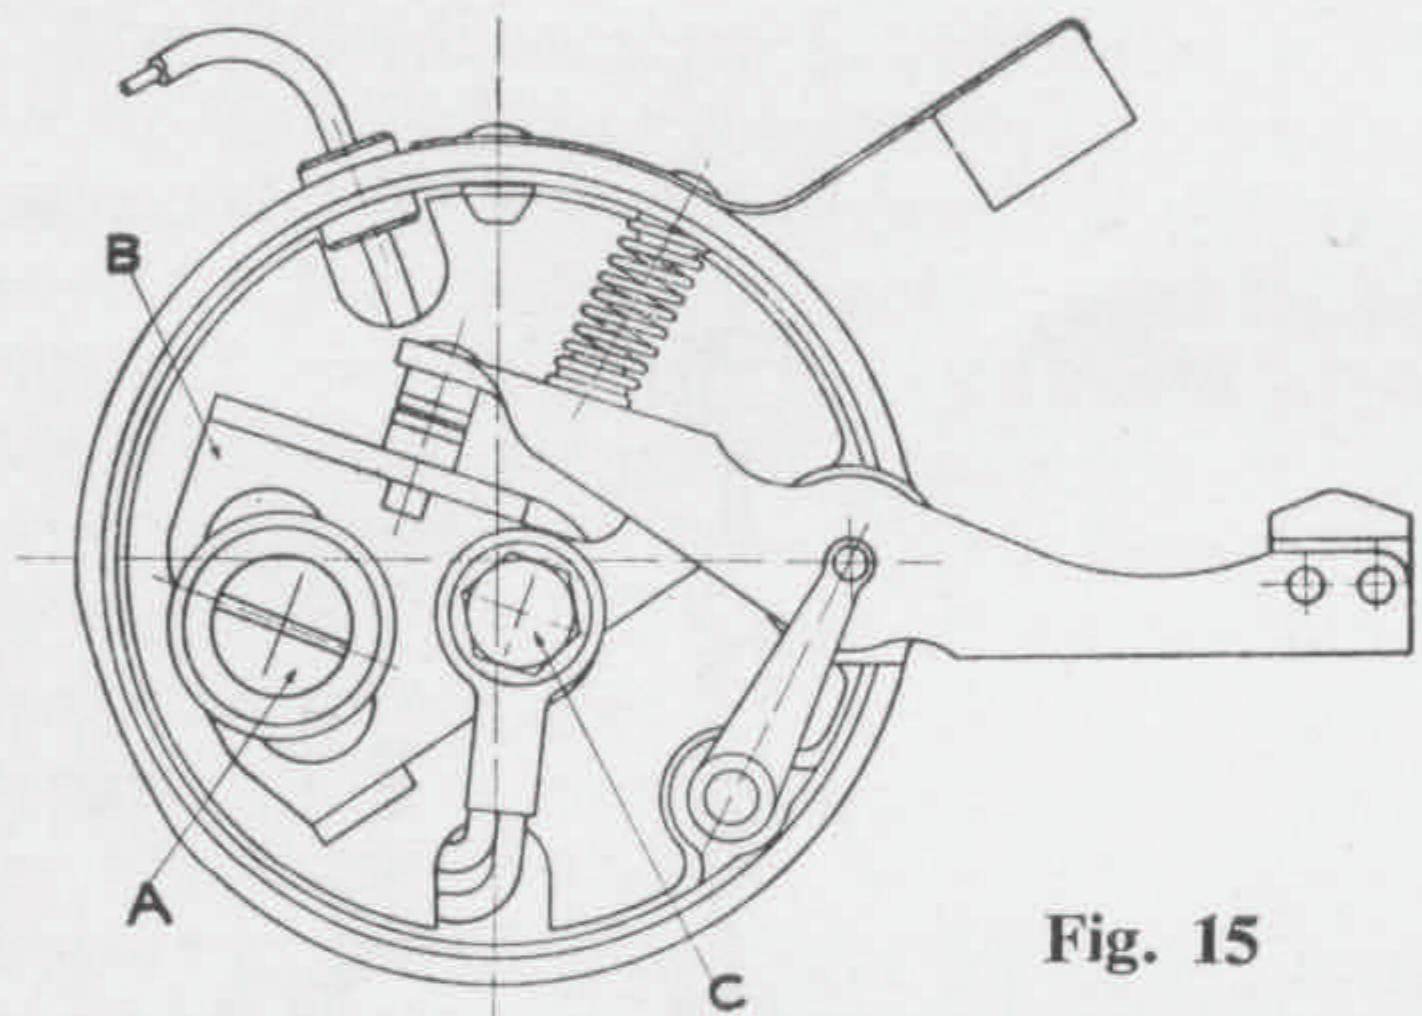
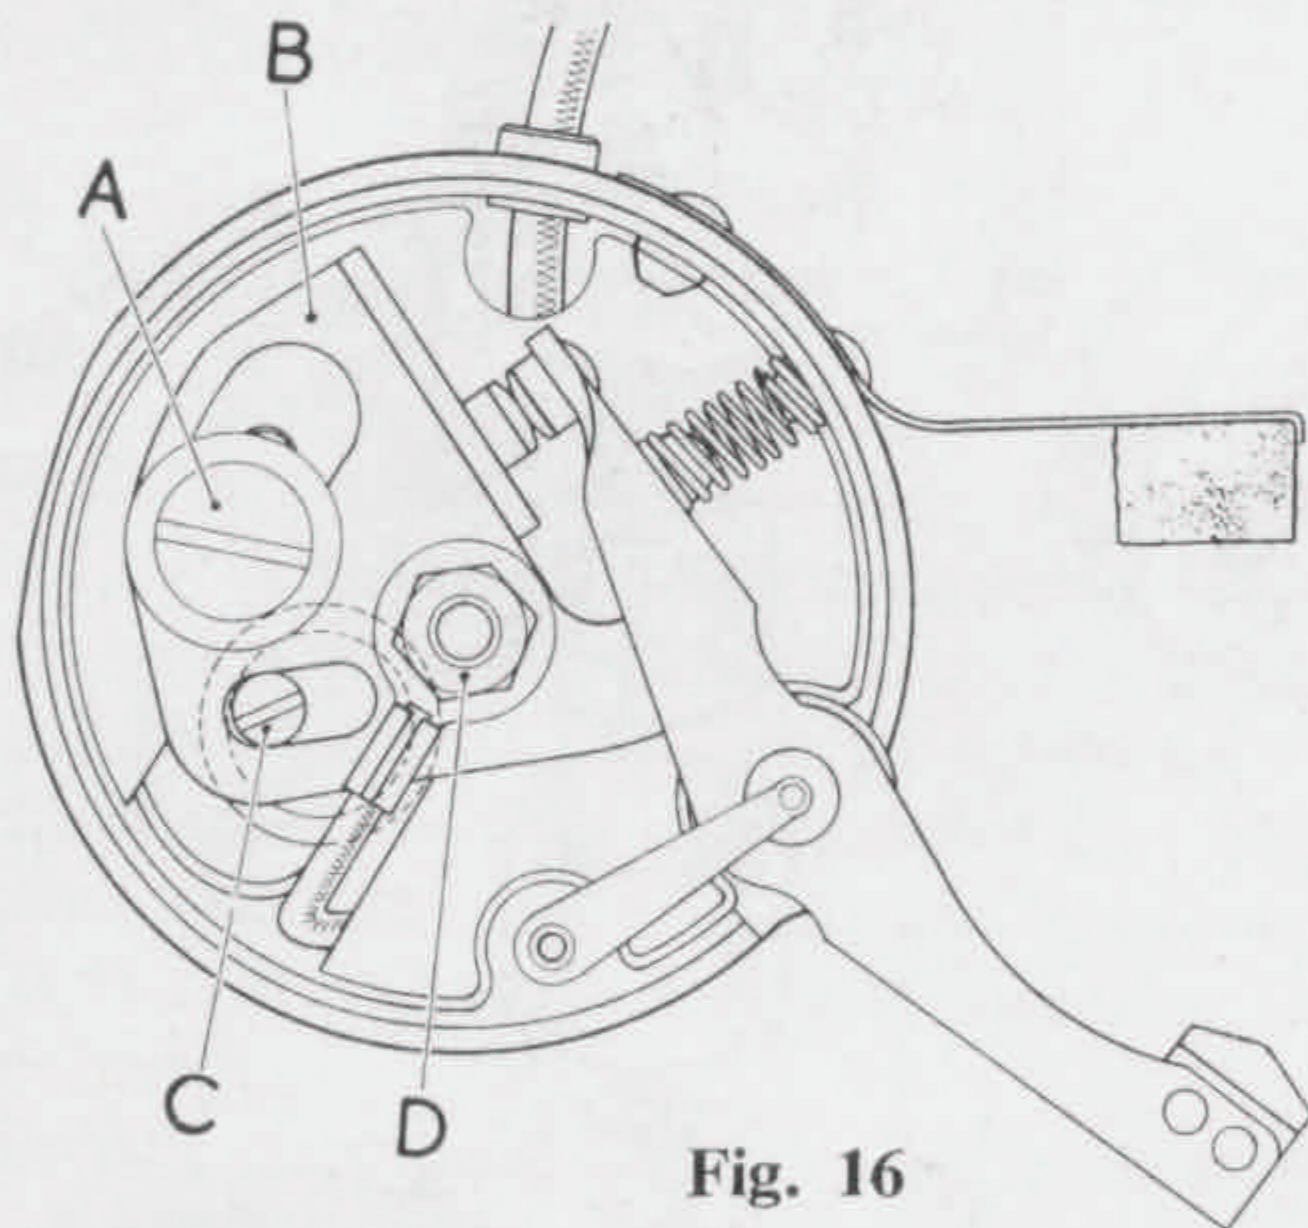
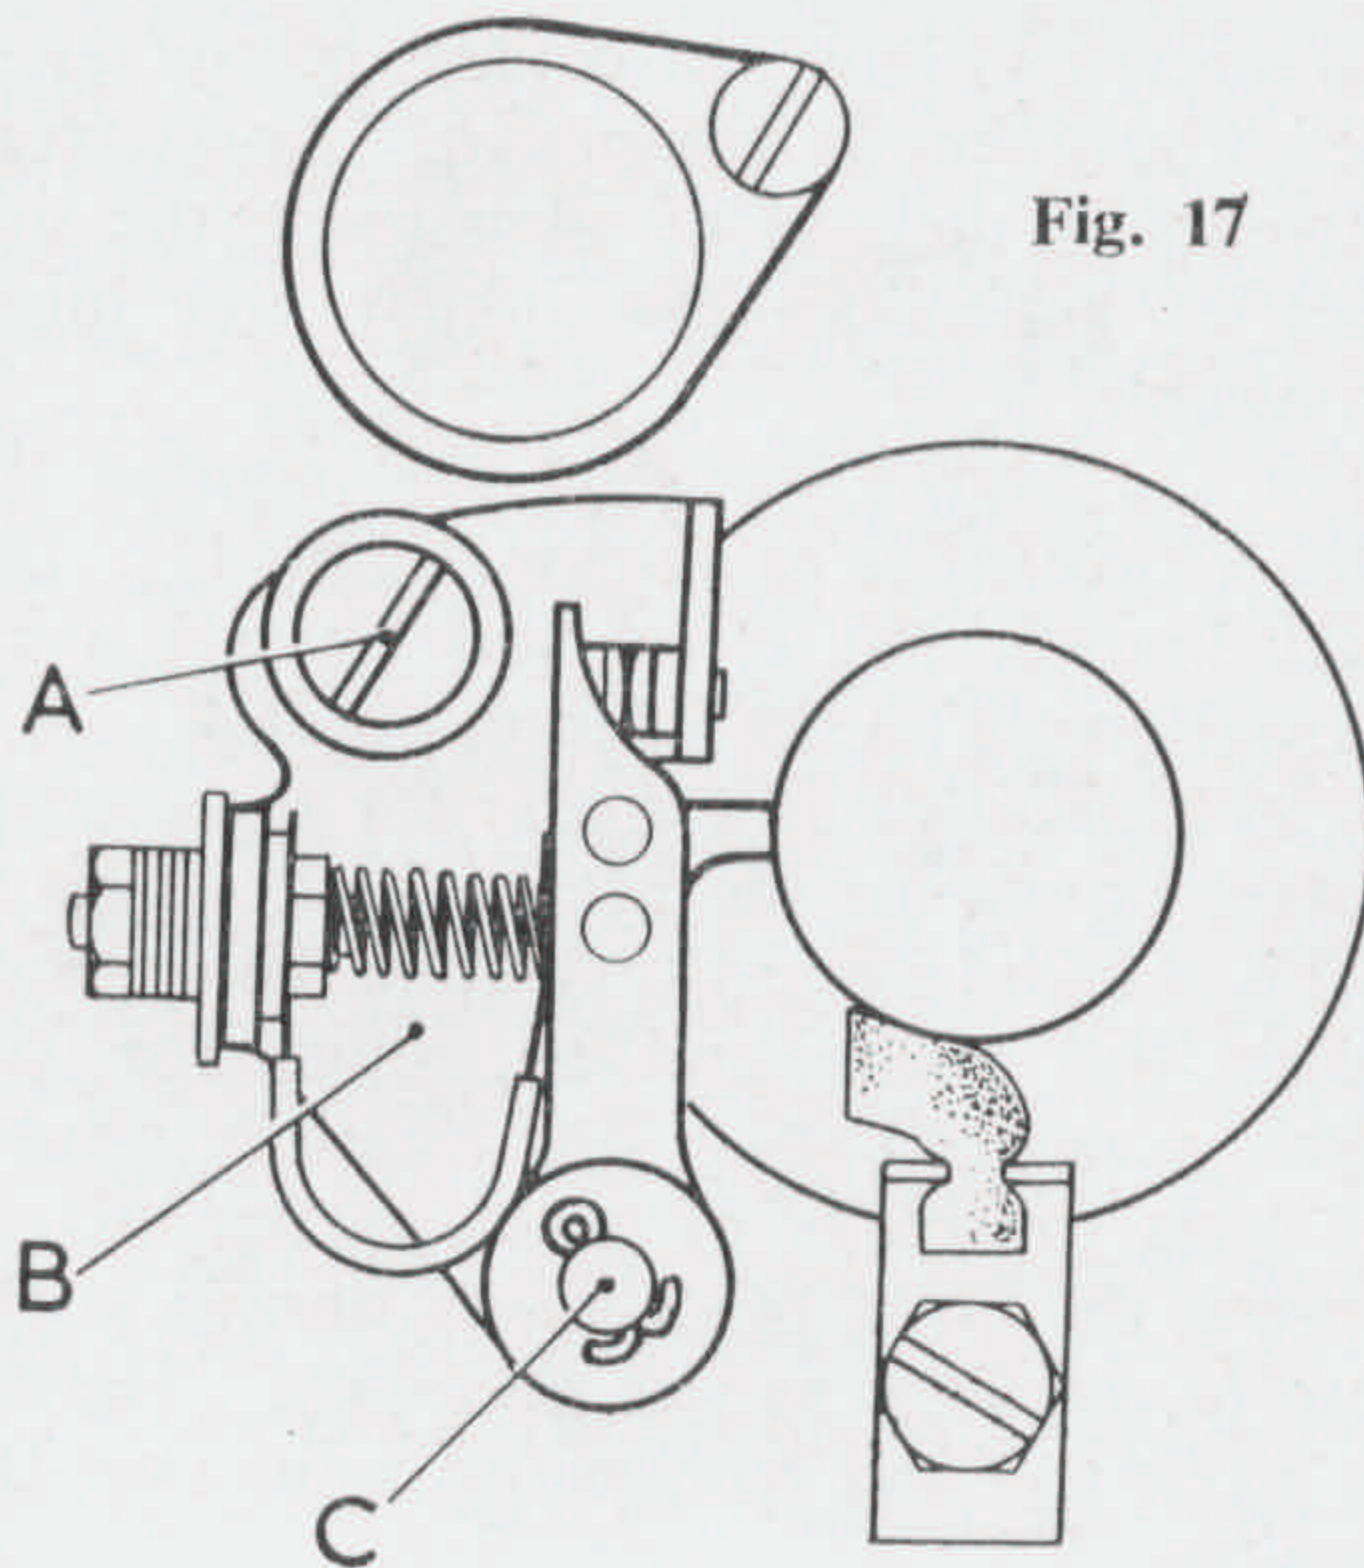
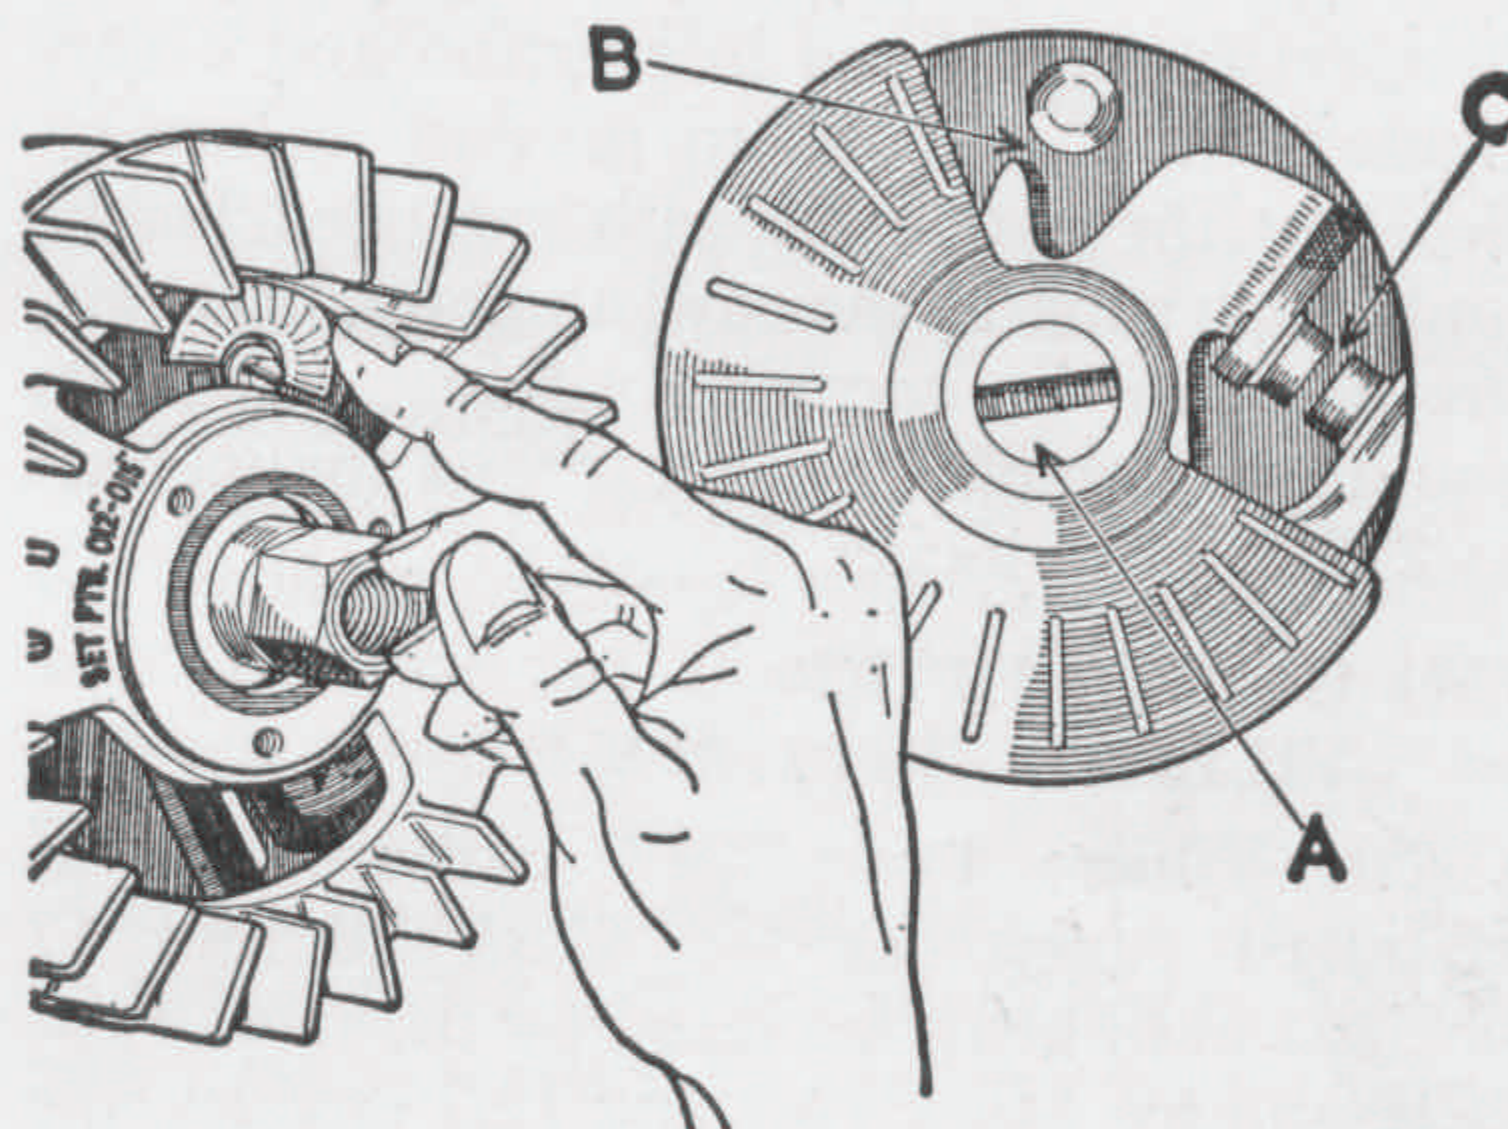

Fig. 15
Fig. 16
Fig. 17
Fig. 18
The contact breaker assembly for the original Marks 10, 12 and 15 engines is illustrated in Fig. 15. This was later replaced by an assembly as Fig. 16. The contact breaker for the Mark 10/1 and 12/1 engines is as shown in Fig. 17. Mark 10/2, 12/2 and 15/2 engines in Fig. 18.
The method of operation is the same for all three types of contact breakers. The rocker arm with contact point is operated by a cam which is part of the flywheel centre boss. The other contact point is fixed to a bracket which is adjustable so as to give the correct gap when fully opened. In the original contact breaker (Mks. 10 and 12) Fig. 15, the point bracket (B) is adjustable after releasing the screw (A). In the later type, Fig. 16, the bracket is secured by the screw (A) and after release of this screw the bracket is adjusted by turning the cam (C) anti-clockwise to widen the point gap and vice-versa.